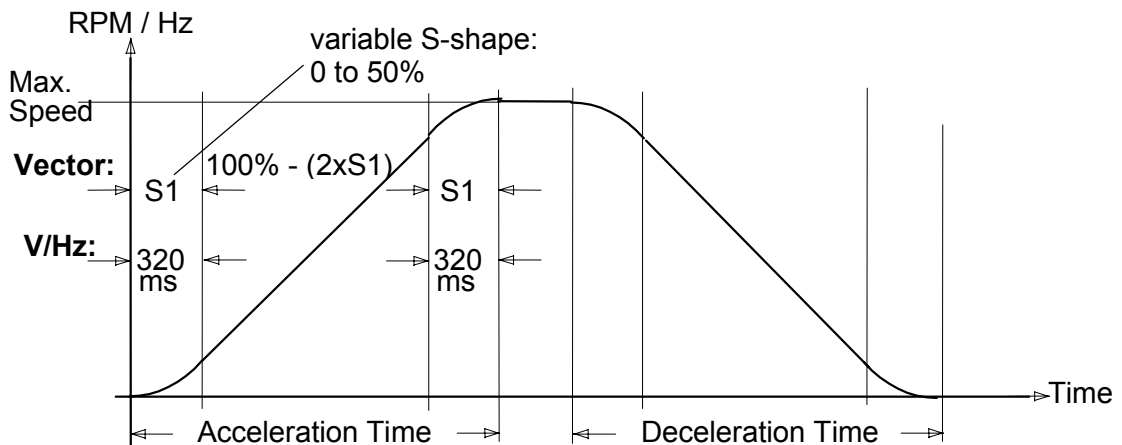

Figure 4-5. S-Curve Acceleration and Deceleration.
V/Hz: At V/Hz mode this parameter is always ON and cannot be set to other values. The non-linear S-portions of the accel or decel ramp time are fixed times of 320 ms. The linear portion makes up the programmed accel/decel time minus 640 ms. See Figure 4-5.
Vector: The non-linear S-portion may be set to 0 (OFF) = 0% (S-curve disabled), 1 (ON) = 20% S-shaping, or (on SW version 6.6) any integer value between 2 = 2% and 50 = 50% of total accel/decel time (see Fig.4-5). The linear portion makes up the programmed accel/decel time minus 2 times the value of the non-linear S-portion.